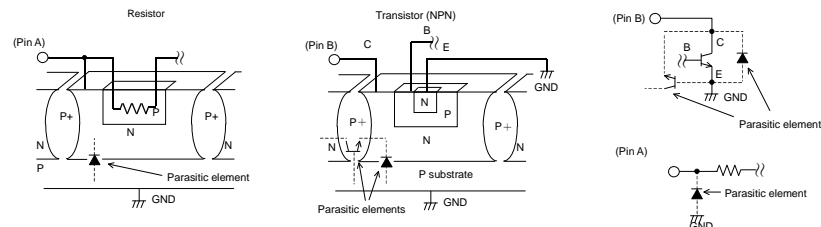

Fig.18 Example of a Simple Monolithic IC Architecture
8) This monolithic IC contains P+ isolation and P substrate layers between adjacent elements in order to keep them isolated. P/N junctions are formed at the intersection of these P layers with the N layers of other elements to create a variety of parasitic elements. For example, when the resistors and transistors are connected to the pins as shown in Fig. 18, a parasitic diode or a transistor operates by inverting the pin voltage and GND voltage.